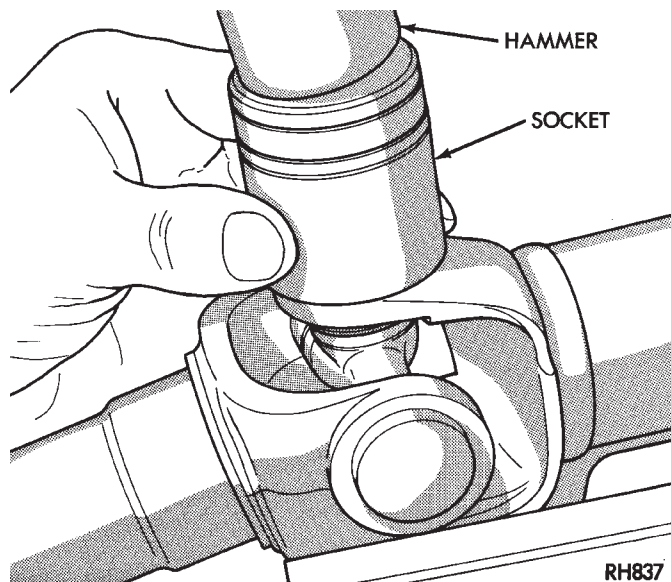

Fig. 4 Disassemble Universal Joint
(1) Mark relationship of shaft to shaft to ensure proper alignment at assembly. Apply penetrating oil to bushings and remove snap rings.
(2) Support yoke in vise and place a socket large enough to receive bushing on top of yoke. A 1-1/8 inch socket is suitable (Fig. 4).
(3) Striking socket with hammer will cause yoke to move down and bushing to move up out of yoke into socket.
(4) After removing one bushing, turn parts in a vise and remove other bushing in same manner.